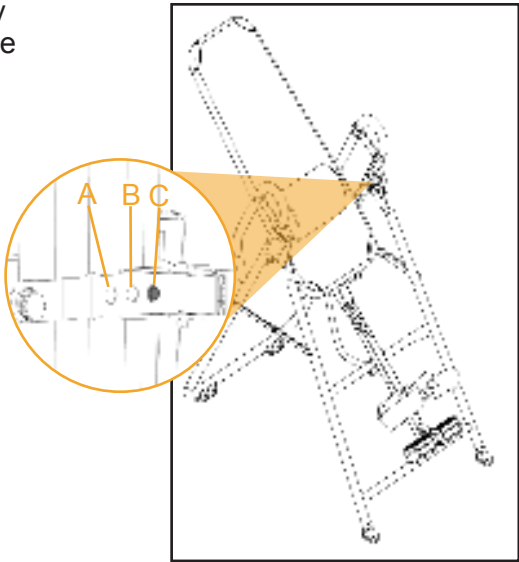

Figure 2
- Pull out the height selector locking pin with your right hand, while sliding the Main Shaft with your left (See Figure 2).